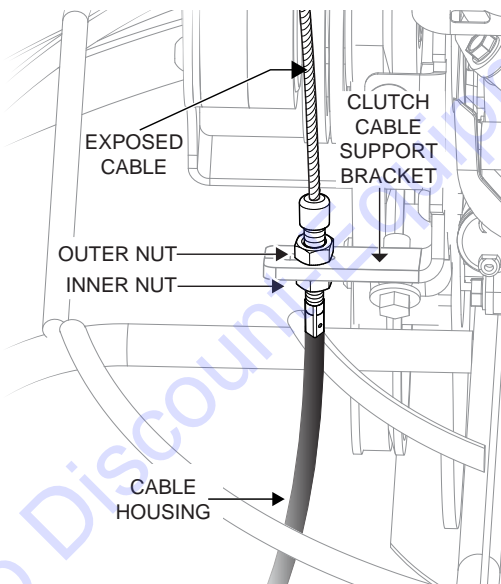

Figure 21. Attaching Clutch Cable To Cable Support Bracket
10. Tighten the inner nut (Figure 21) against the clutch cable support bracket until there is no longer any slack in the cable between the threaded cable end and the clutch cable spring.